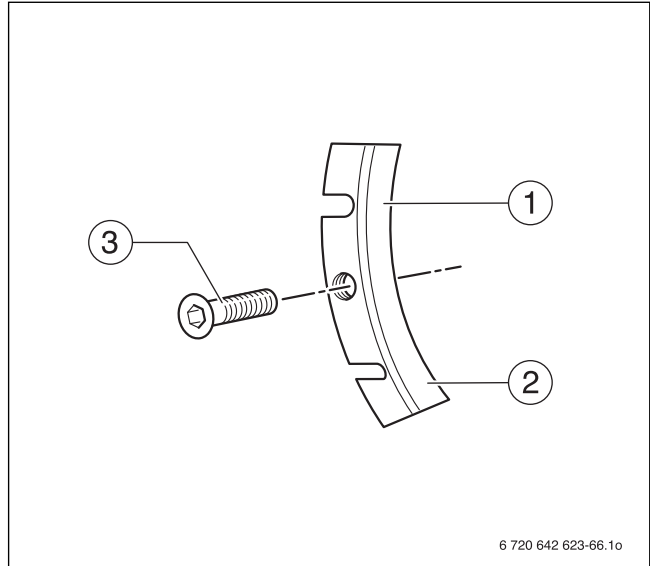

Fig. 69 Hot gas check plate
- ▶ Take the hexagon socket screw (→ Fig. 69, [3]) out of the hot gas check plate on the left and right (→ Fig. 69, [1 and 2]) and remove the hot gas check plates.
- ▶ Place the hot gas check plate on the support with the channels (→ Fig. 69, [1 and 2]) facing downwards. Knock off one segment of the left and right hot gas check plate with a hammer.